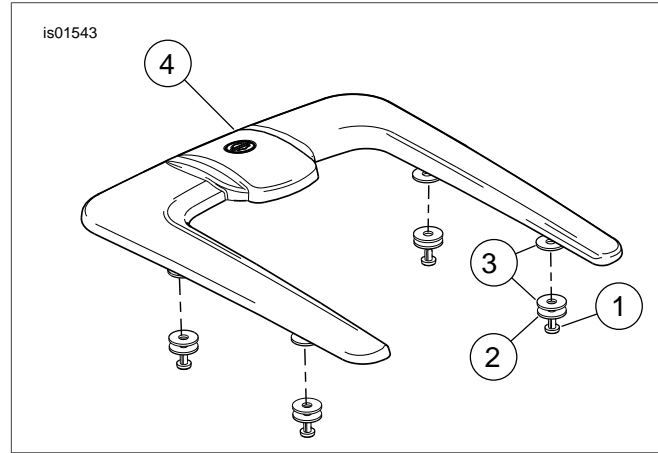

Figure 4. Service Parts: Chrome Tour-Pak Lid Trim Kit
See Figure 4 and Table 1.
6. See Figure 4. Obtain the Tour-Pak lid trim piece (4) and five of the rubber washers (3) from kit. At each of the mounting studs on the trim piece, carefully fit a rubber washer onto the stud end.